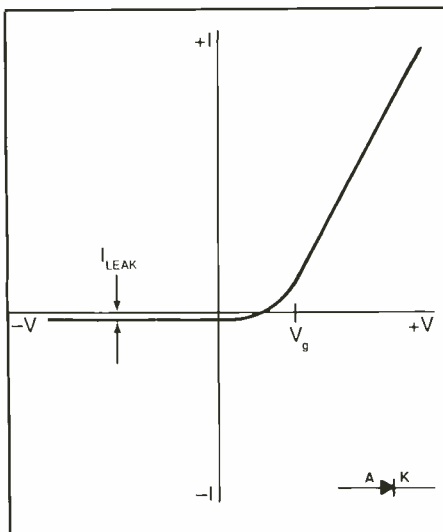

Fig. 4. The current-versus-voltage transfer characteristic of a diode.
Figure 4 shows the current-versus-voltage (I-vs.-V) characteristic for a diode. When the applied voltage is such that the anode (A) is negative with respect to the cathode (K), the diode is cut off and no current flows through it, which is the reverse-biased condition. In theory, current flow through the diode is zero. (In real diodes, however, there is always a tiny leakage current (I_{leak}) in the reverse direction. As a general rule, the smaller the leakage current, the bet-